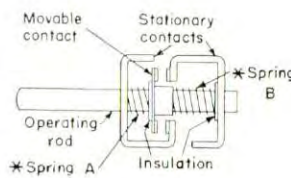

Fig. 1
Assemble the parts on the operating rod as shown in Fig. 1. Place the entire assembly on the molded base with the longer portion of the operating rod toward the contactor and replace screws (F). Check to see that the operating rod moves without binding.